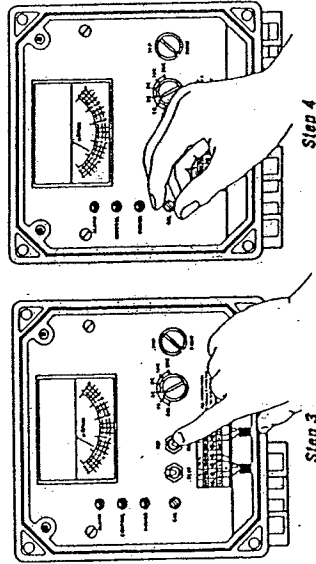

Fig. 7, System Calibration
- 3) Position Set/Read Switch in the "Read" position (See Fig. 7, Step 3).
- 5) Adjust Cal Adjust knob until the meter on ABC matches the reading on the calibrated hand held meter. Your unit is now calibrated (See Fig. 7, Step 4).